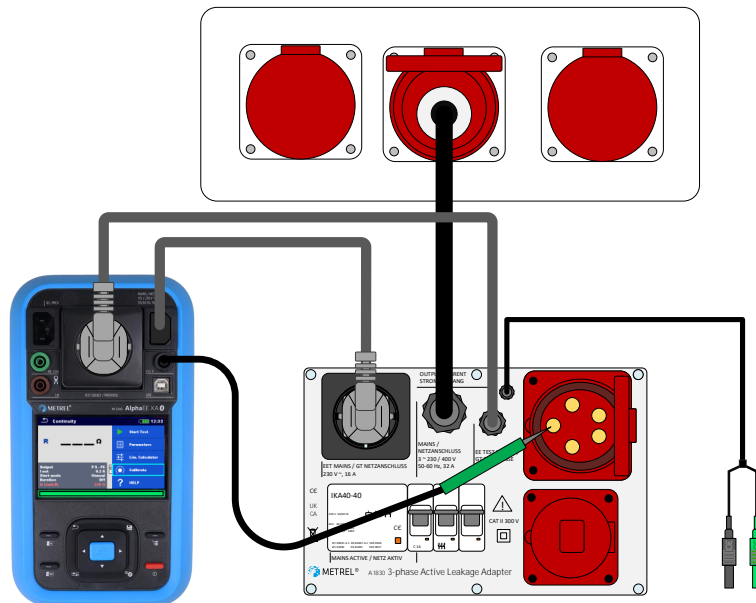

Figure 121_Test leads compensation
- Connect the test lead according to the connection diagram Figure 121_Test leads compensation,